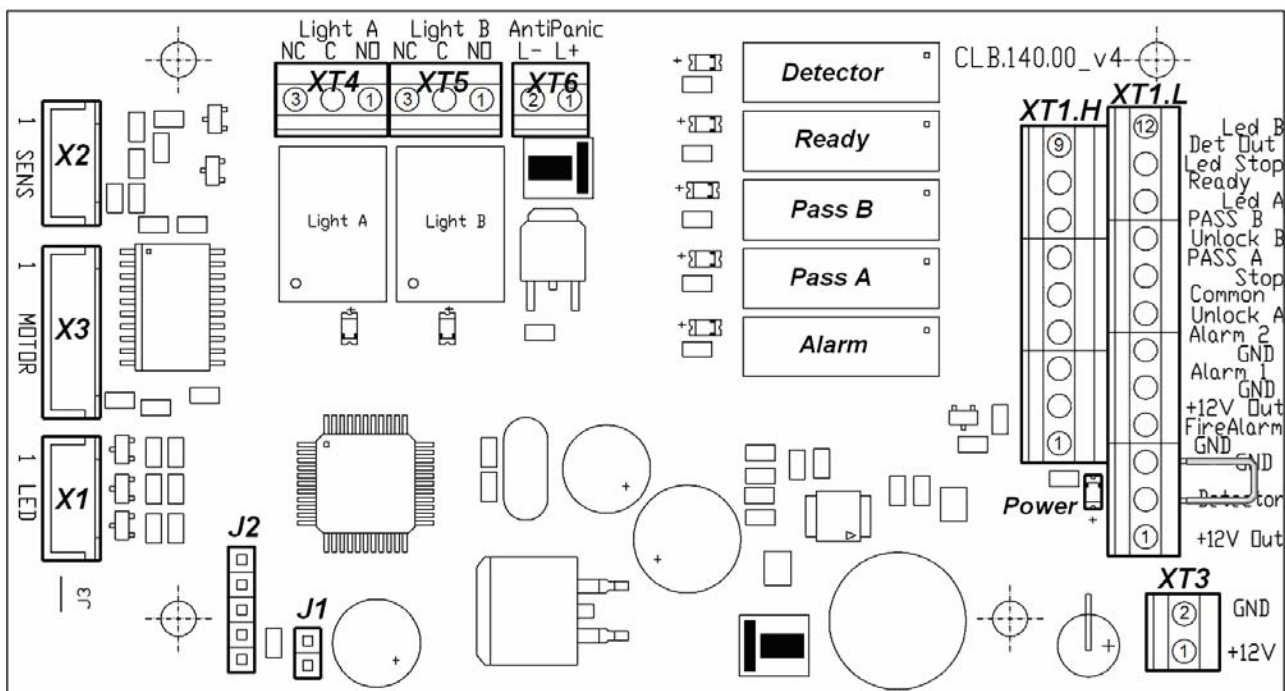
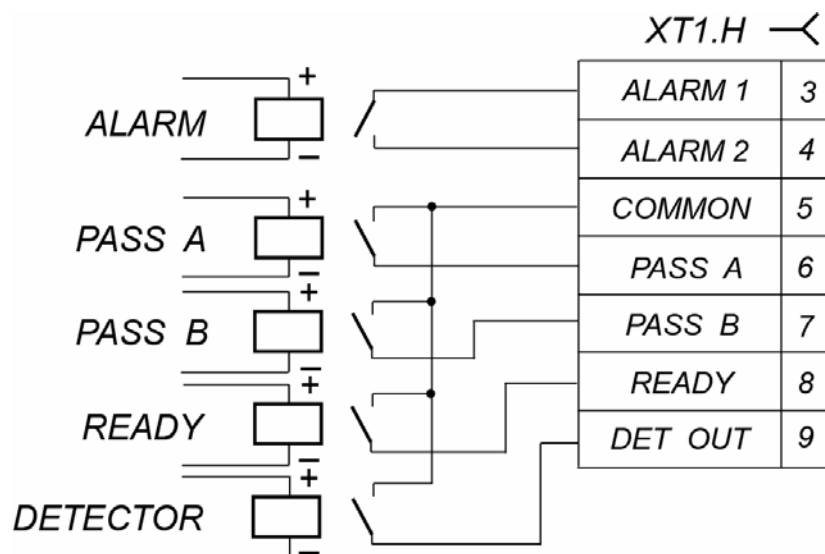

Fig. 5. The CLB (CLB-140)
Fig. 8. Output cascades for *PASS A*, *PASS B*, *Ready*, *Det Out* and *Alarm*
The RC-panel is connected to the CLB with a flexible multicore cable (14) via the **XT1.L** connector block (Ref. Fig. 5 and Fig. 13).
If the turnstile orientation relatively to the operator’s terminal is not standard (e.g. the terminal is placed at the backside of the turnstile housing), the RC-panel orientation towards the turnstile can be changed by exchanging places of the RC wires to the contacts *Unlock A* and *Unlock B* as well as contacts *Led A* and *Led B* accordingly (Ref. Fig. 5 and Fig. 13).
5.2.4 Inside the turnstile housing there is a bracket with a CLB mounted on it with terminal clamps for connection of external devices. RC-panel, ACS outputs, WRC device (when used), intrusion detector (optional) and emergency unblocking device are connected to the CLB. Connection lines of a power supply unit and signal lines of card readers are connected to the terminal clamps for connection of external devices. External devices are connected in accordance with connection layout (Ref. Fig. 13). The CLB is shown in Fig. 5.
5.2.5 The CLB (Ref. Fig. 5) houses:
- **XT1.L (In)** connector block to connect the RC-panel / the WRC / ACS controller inputs as well as an emergency unblocking device (FA);
The *Common* contact, common contact for the relays, at that, is not connected to the negative terminal of the turnstile power supply. In the initial (inactive) state, when the power is on, the relay contacts *PASS A*, *PASS B*, *Ready* and *Detector* are closed (voltage is supplied to the relay coil) and the “Alarm” relay contacts are open (voltage is not supplied to the relay coil). Opening / closing of *PASS A*, *PASS B*, *Ready*, *Detector* and *Alarm* relays is indicated by lighting/going out of red indicators located near the corresponding relays (Fig. 5). The output cascades for “*PASS A*”, “*PASS B*”, “*Ready*”, “*Det Out*” and “*Alarm*” are the relay contacts with the following signal characteristics (Ref. Fig. 8):
5.5.2 The control mode is set by the jumper on a **J1** connector (the **J1** connector location is shown in Fig. 5: the jumper is installed – the pulse control mode, the jumper is not installed – the potential control mode). The jumper is installed at delivery.
The emergency unblocking device is connected to the **XT1.L** connector block of the CLB in accordance with the connection layout (Ref. Fig. 5 and Fig. 13).